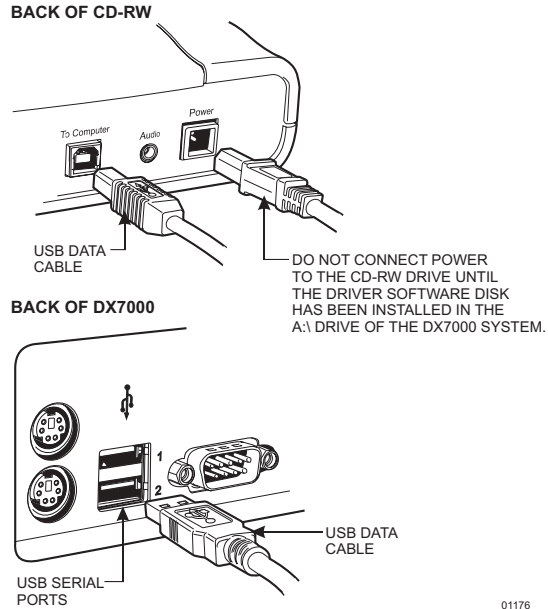

Figure 28. How to Connect the CD-RW Drive to the DX7000 DVR
1. Connect one end of the USB data cable to the CD-RW drive. Connect the other end of the USB data cable to the USB serial port (1 or 2) located on the back panel of the DX7000 DVR. Do not connect the power supply to the CD-RW drive at this time. Refer to Figure 28.